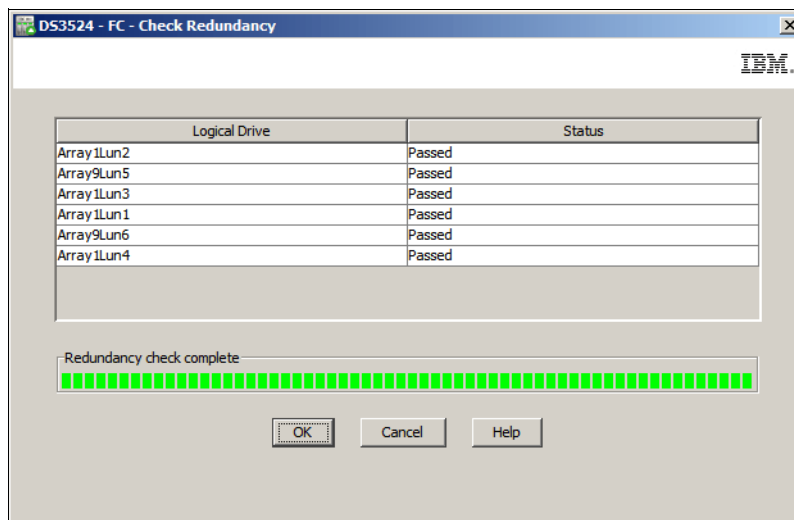

Figure 14-154 Check Redundancy completed
5. The window shown in Figure 14-154 is displayed after the last logical drive in the array has been checked, click **Done** to exit.